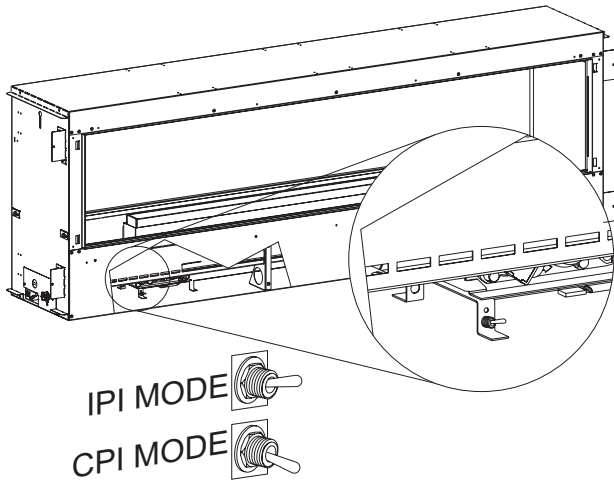

Figure 45
16. Set IPI/CPI switch located under the burner box on the left side below the valve. **See Figure 45.**